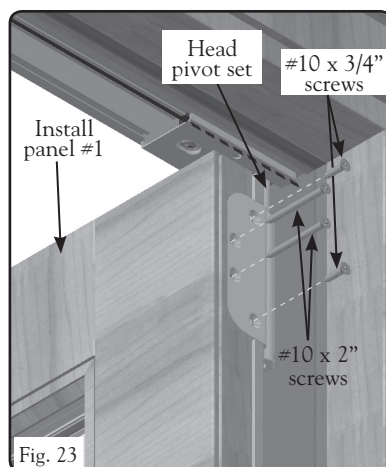

Fig. 23
- See Fig. 23. Use the supplied screws to attach install panel #1 to the pivot set hinges. (Head pivot shown.)